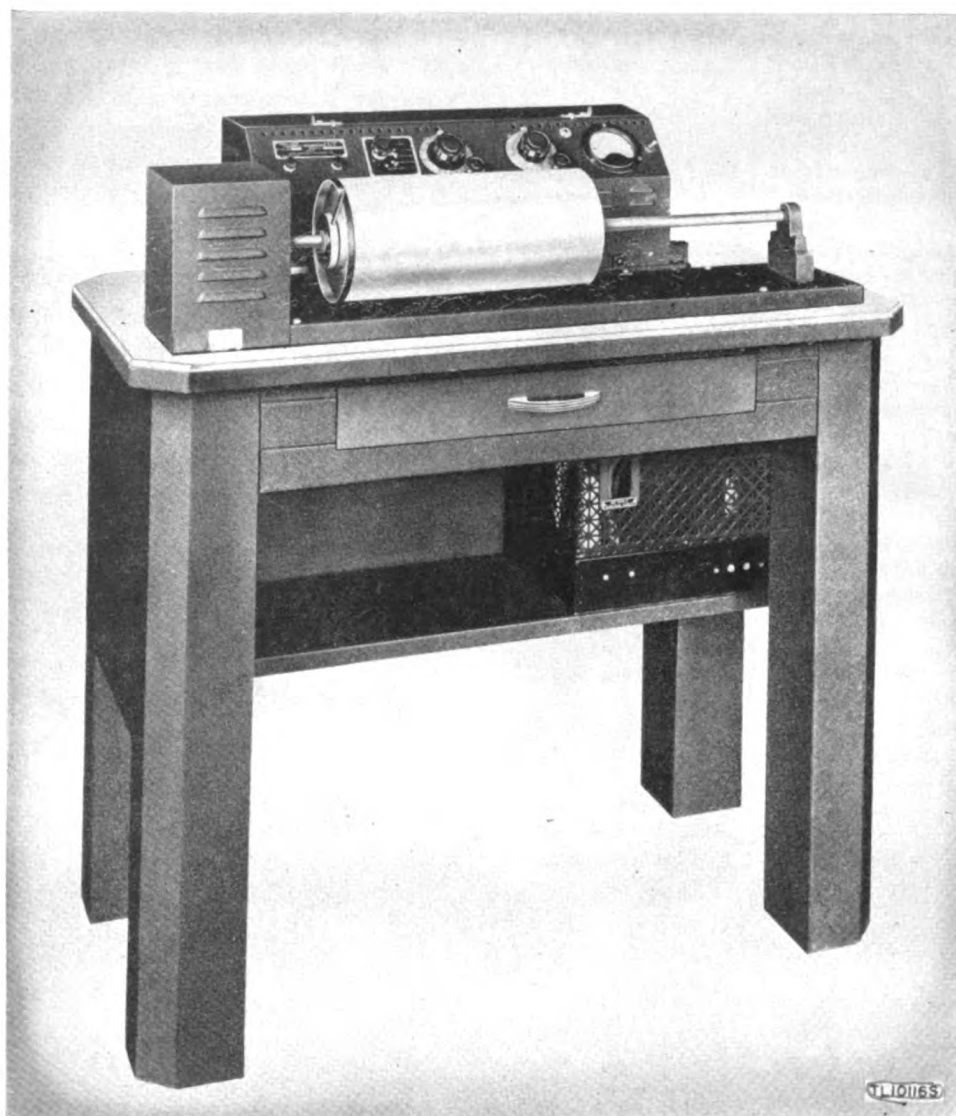

Figure 5. Facsimile Transceiver FX-1 modified for 12- by 18-inch copy.
a. The FX-1 is designed to handle 7- by 8 $\frac{5}{8}$ -inch copy. A small number of units were built in a modified form to handle 12- by 18-inch copy. (See fig. 5.)